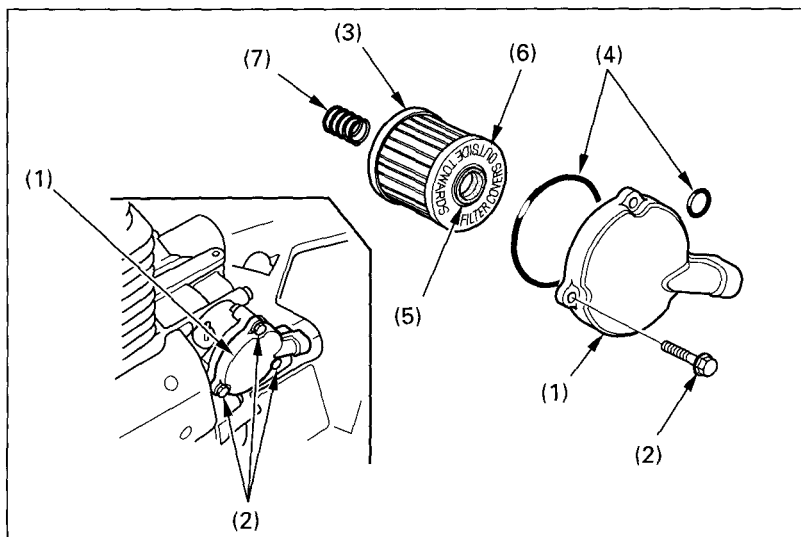

Fig. 4-13 (1) Oil filter cover
(1) Oil filler cap
(2) Oil drain plug
3. Remove the oil filter cover (1) (Fig. 4-13) by removing the bolts (2). Let the remaining oil drain out. Discard the oil filter (3).
4. Check that the oil filter cover O-rings (4) are in good condition and then install a new oil filter. Use only the Honda genuine oil filter or a filter of equivalent quality specified for your model. Using the wrong Honda filter or a non-Honda filter which is not of equivalent quality may cause engine damage.
5. Install the filter with the rubber seal (5) facing out, away from the engine. You will see the "OUTSIDE (TOWARDS FILTER COVER)" mark (6) on the filter body, near the seal.
6. Reinstall the oil filter cover (1), making sure the bolts (2) are tightened securely.